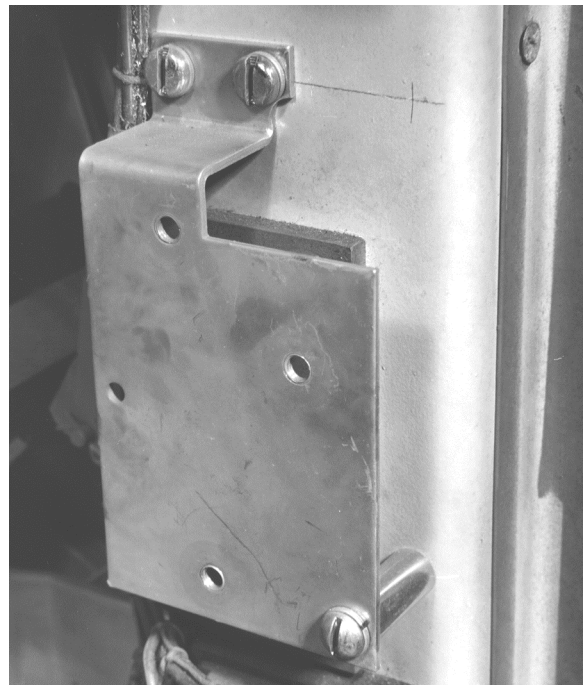

Figure 12. Trip unit mounting plate attached to the breaker front channel.
2. Attach the new mounting plate, as shown in Figure 12, with two short  $\frac{1}{4}$ -20 screws and lock washers on the top and the single long  $\frac{1}{4}$ -20 screw and lock washer on the bottom. Be sure to insert the spacer between the mounting plate and the breaker channel, as shown.